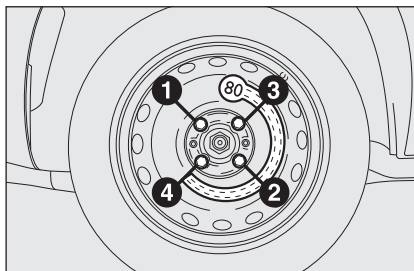

fig. 8
- using the wrench provided, tighten up the wheel bolts in a criss-cross fashion following the sequence shown in **fig. 8**.
- Using the wrench provided, fully tighten the bolts in the sequence shown in **fig. 8**;
- Using the wrench provided, fully tighten the bolts in the sequence shown previously for the space-saver spare wheel (see fig. 8).